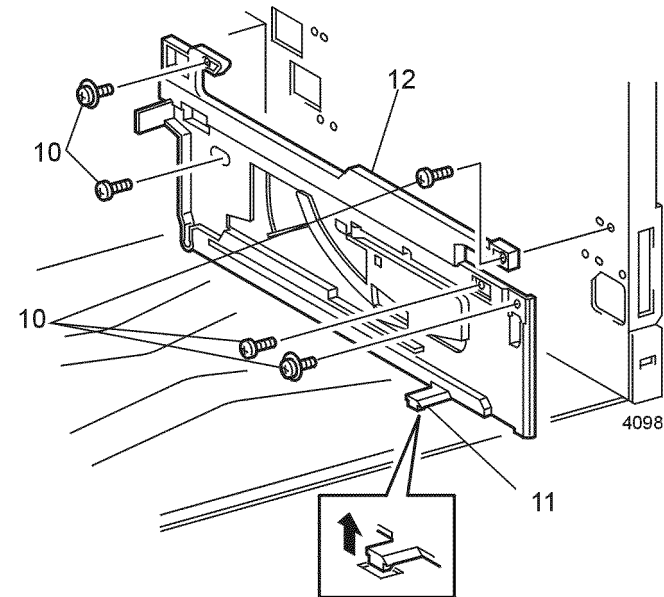

Figure 2 Right Tray Guide
10. Remove the five screws that secure the Right Tray Guide to the feeder (Figure 2).
11. Use a small screwdriver to pry up the locking tab (Figure 2).
12. Remove the Right Tray Guide (Figure 2).